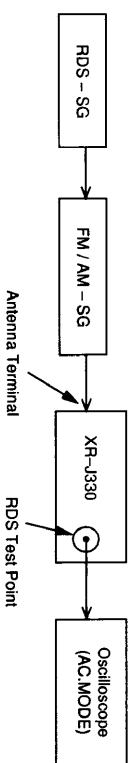

Fig. 4-1 RDS Adjustment Wiring Diagram
- Connect the wiring as shown in Fig. 4-1